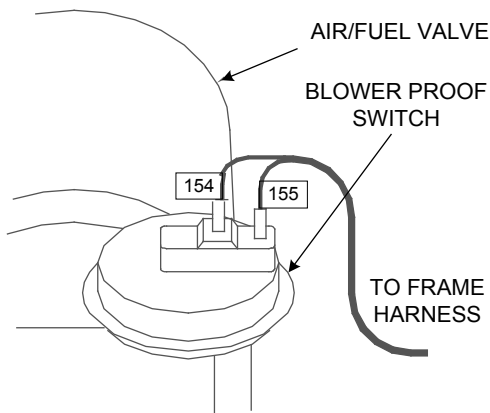

Figure 5.5
2. Once the unit has proved flame, remove either wire #154 or #155 from the blower proof switch (see Fig. 5.5) located on the air/fuel valve.